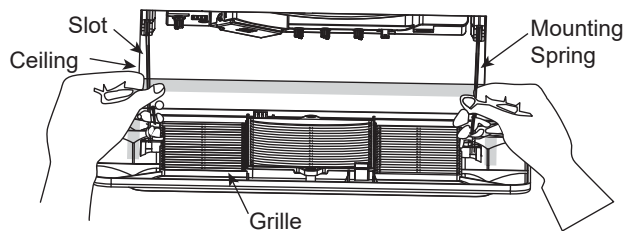

Fig. 9
9. Insert mounting springs into slots and mount grille to fan body. See Fig. 9